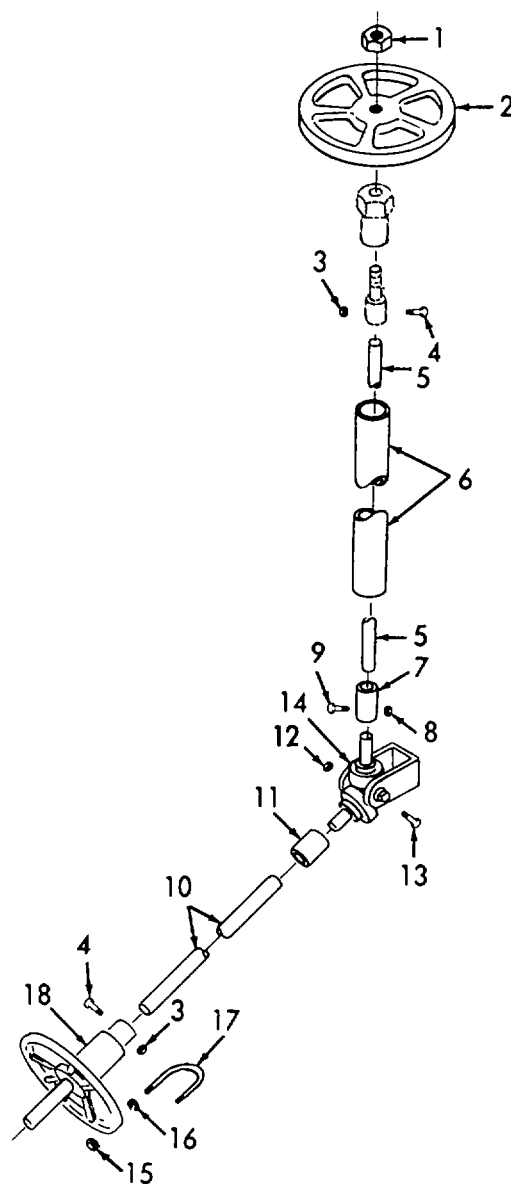

Figure 4-63. Remote Valve Control, Removal/Installation.
a. Removal. (Refer to figure 4-63).
- (1) Remove nut (1) and handwheel (2).
- (2) Remove two nuts (3), two bolts (4), reach rod (5), pipe (6), and coupling (7).
- (3) Remove two nuts (8), two bolts (9), reach rod (10), and coupling (11).
- (4) Remove nut (12), bolt (13), and swivel (14).
- (5) Remove four nuts (15), four lockwashers (16), two U-bolts (17), and coupling (18).
- (1) Refer to figure 4-63 and install coupling (18) and secure with two U-bolts (17), four lockwashers (16), and four nuts (15).
- (2) Install swivel (14) and secure with bolt (13) and nut (12).
- (3) Install reach rod (10), coupling (11) and secure with two bolts (9) and two nuts (8).
- (4) Install coupling (7), pipe (6), reach rod (5) and secure with two bolts (4) and two nuts (3).
- (5) Install handwheel (2) and secure with nut (1).